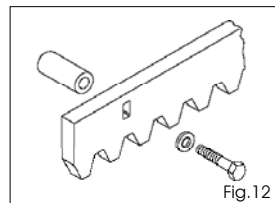

Fig.12
5.4.2. Steel rack to screw (Fig. 12)